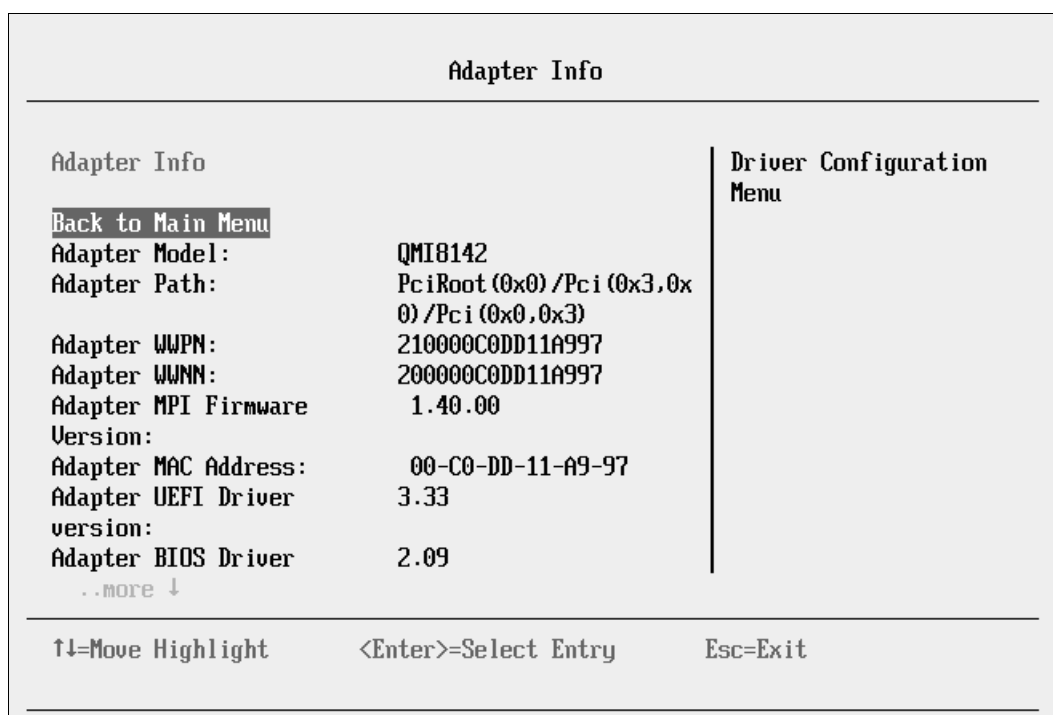

Figure 9-156 Adapter Info panel
- In the Adapter Info panel (Figure 9-156), note the WWPN and MAC address and view the revision levels of the adapter. Make sure that you are using the latest code levels that are certified by your SAN vendor. Then press Esc.